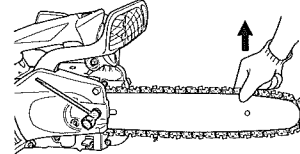

Fig. 7
8. Raise the bar end and securely tighten the guide bar clamp nut with the combi box spanner. (Fig. 7)